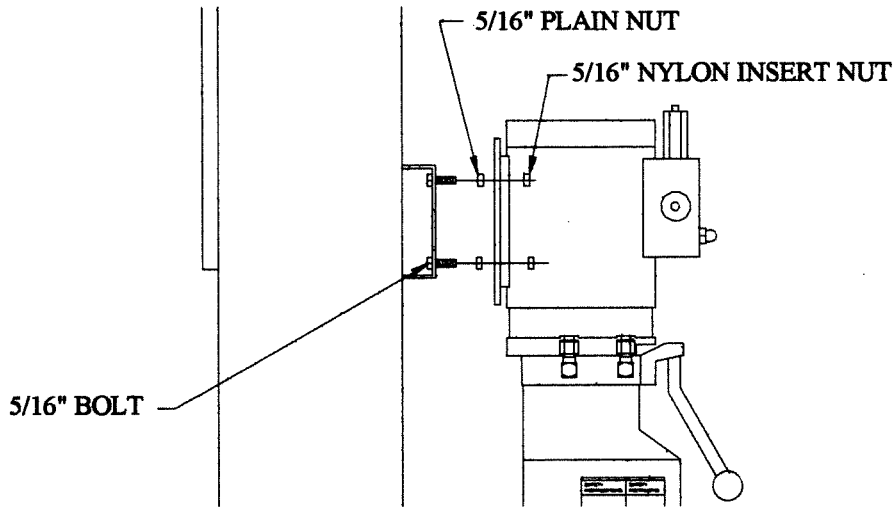

FIGURE 10
22. Refer to Figure 10 on the following page for mounting of the power unit. Locate the power unit mounting bracket on the back of the mainside leg. Attach 5/16" x 1" bolts to the mounting brackets and secure with 5/16" plain nuts. Attach the power unit to these bolts and secure with 5/16" nylon insert nuts.